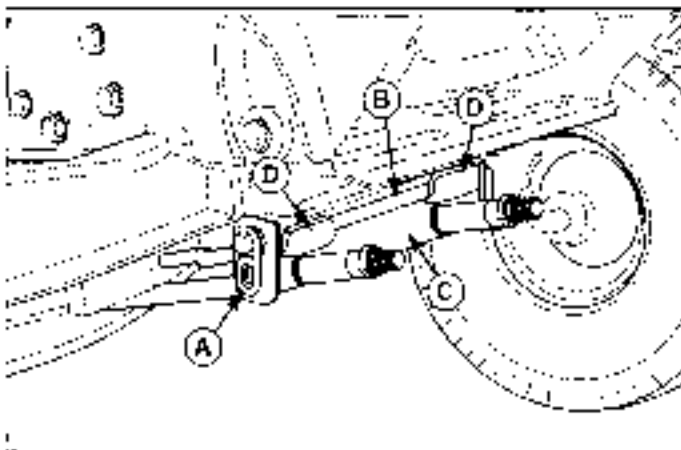

Figure 16. Mower Hitch
6. Turn wheels straight ahead. Support the mower hanger (C). Remove safety clip (A, Figure 16) and rod (B). Lower the mower hanger (C).
3. Turn wheels straight. Lift the mower hanger (C, Figure 16), insert rod (B) through mower hanger (C) and tractor brackets (D). Secure with safety clip (A).